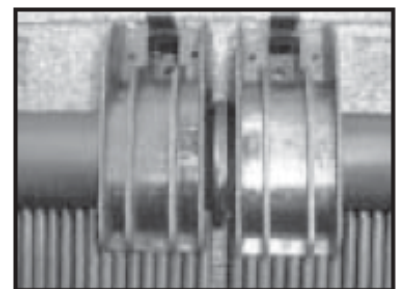

Fig. 8.3
4. Since normal horizontal expansion and contraction of an array of panels takes place every day as panels heat up and cool down, it is preferable to lock the center of each array in place so that the expansion and contraction takes place evenly to the left and right of this center point. The center panel of an array may be locked in place by locating the gator clamps on that panel adjacent to the left and right of **one** of the header ribs (see Fig. 8.3, page 15). These gators should be attached using (2) lag bolts as opposed to (1). **Do not use this procedure more than once on any array of panels.**